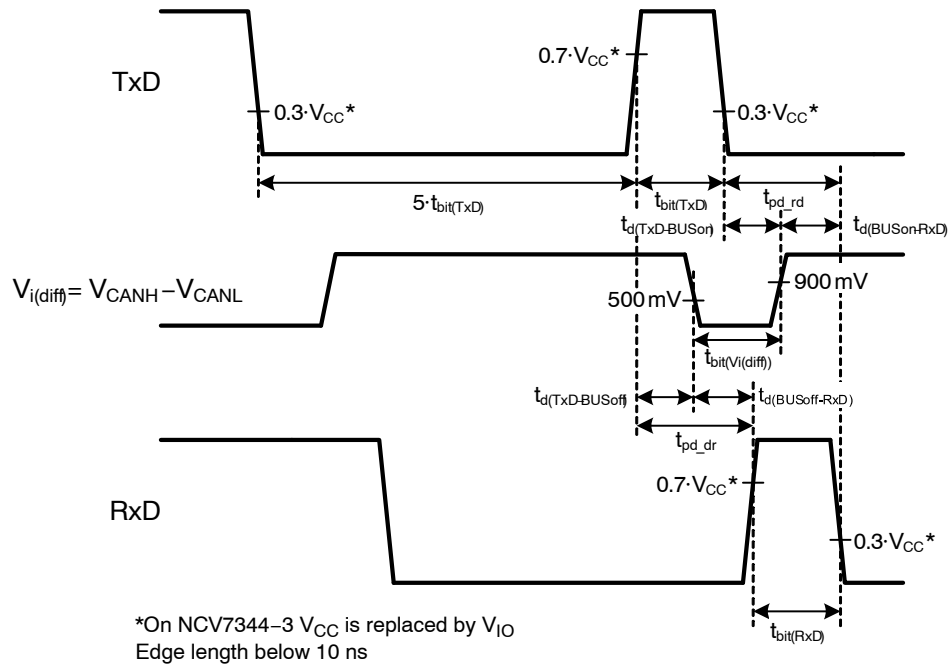

Figure 6. Transceiver Timing Diagram
**TIMING CHARACTERISTICS (see Figures 6 and 8)**